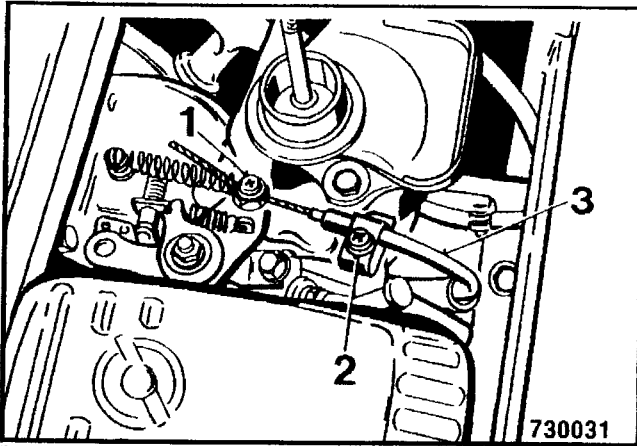

Fig. 1
- Unscrew the mounting nut 1 (Fig. 1).
- Loosen the adjusting nut (2) and remove the throttle cable from the control leverage (3).